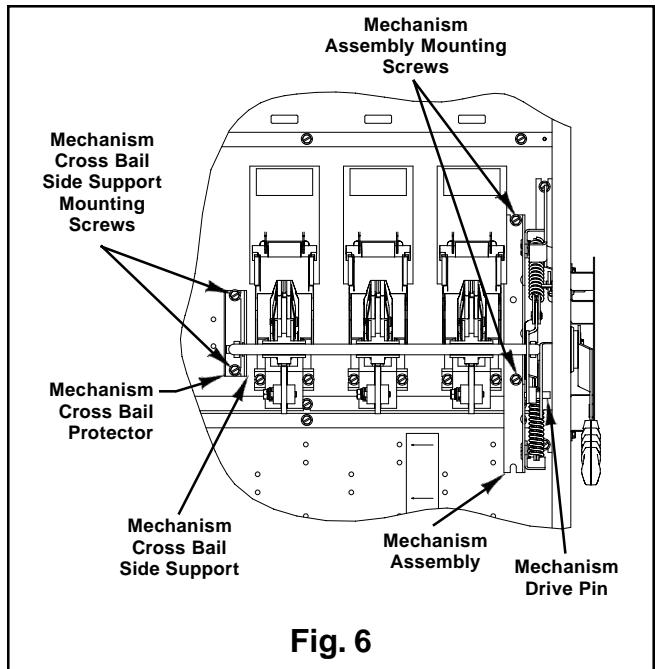

Fig. 6
12. Place Cross Bail Side Support in enclosure as shown in **Figures 6 and 9**. Insert Cross Bail Side Support Mounting Screws, but do not tighten.
- b. Slide Cross Bail Protector into position as shown in **Figures 6 and 9**. (Cross Bail Side Support mounts against the enclosure)